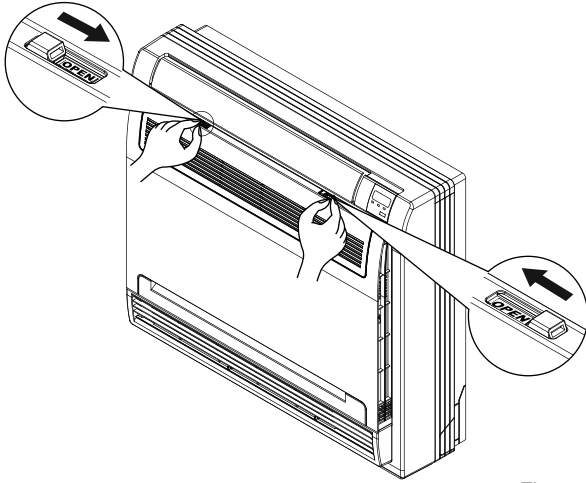

Fig. 7-1
- Slide the two stoppers on the left and right sides inward until they click. (Refer to Fig. 7-1)